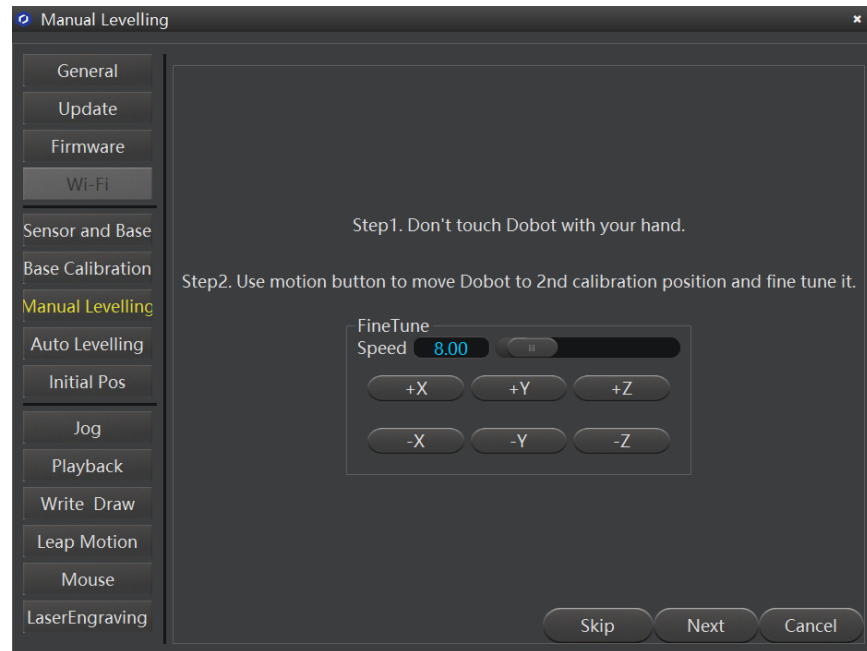
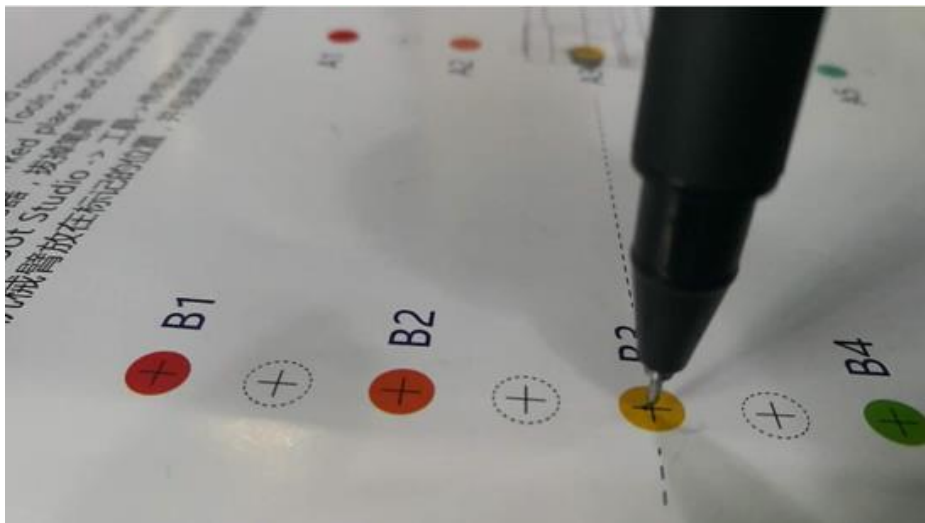

Figure 5.165 Fine-tune page
Figure 5.166 Nib position on the second calibrated point
Step 6 Click **Next** and follow the instructions on the **Manual Levelling** page (as shown in Figure 5.165) to move Dobot Magician to make the nib in the center of the second calibrated point. If the calibrated point is **B3** on the calibration board, as shown in Figure 5.166.